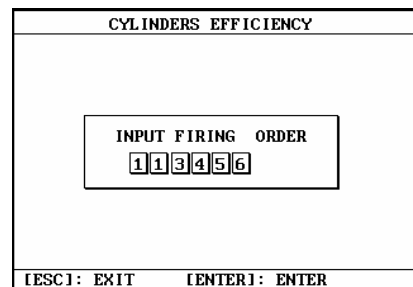
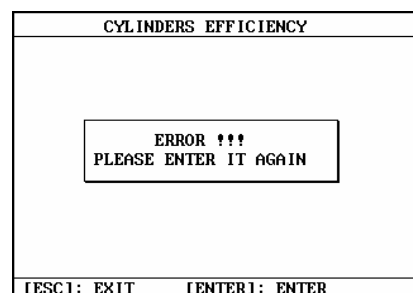

Fig.7-34
Fig.7-35
- ◆ Make sure to input the right firing order; otherwise the test cannot be performed. For example, if you input an error firing order as shown in Fig.7-34, the screen will display the error information as shown in Fig.7-35.